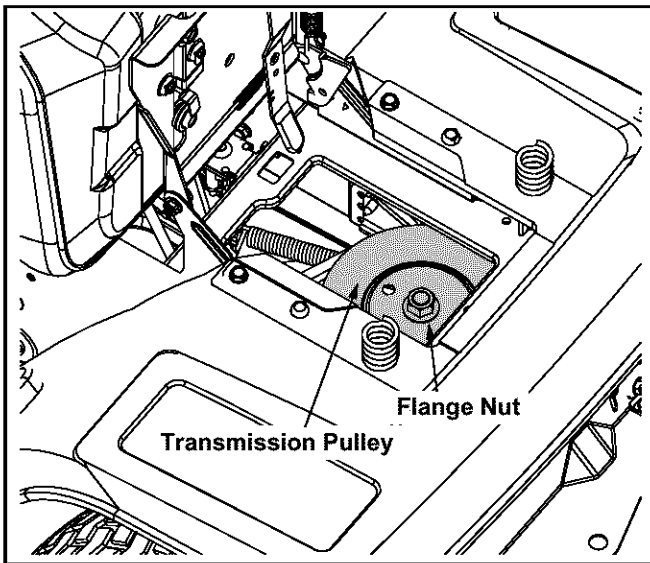

Figure 23
- Locate the transmission pulley through the battery tray opening. See Figure 23.